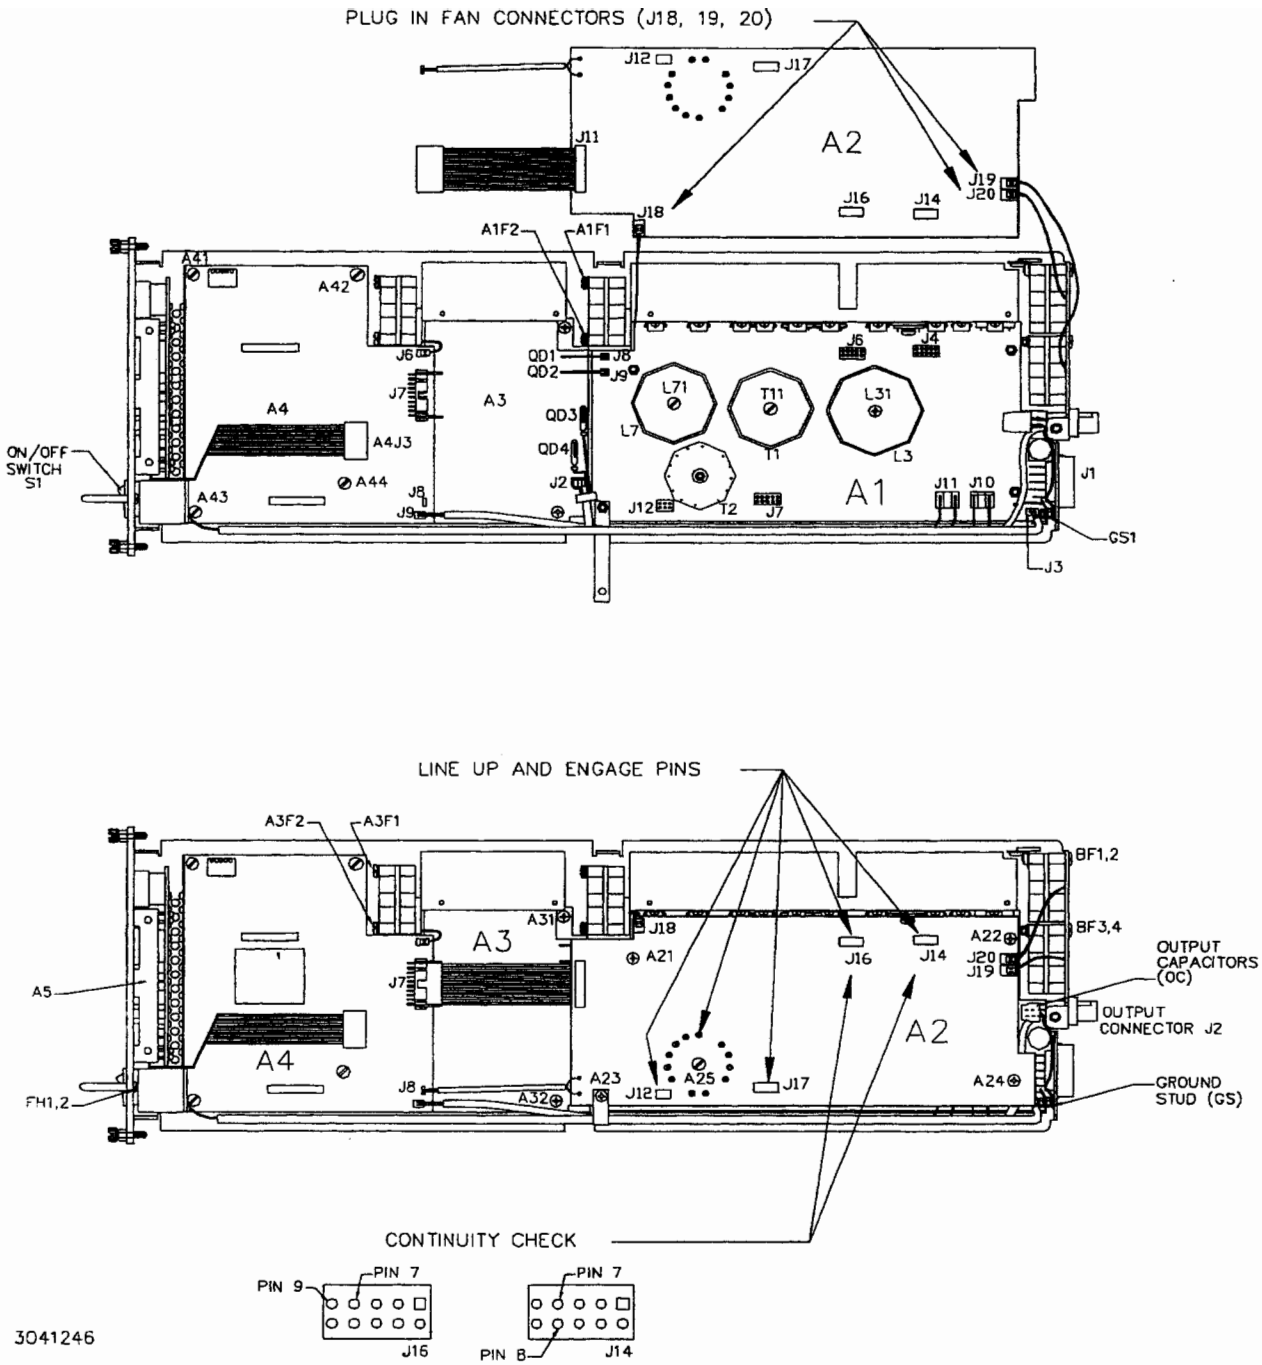

FIGURE 5-2. GUIDE TO MST REASSEMBLY
5.3.2 A2 BOARD REMOVAL (REFER TO FIGURE 5-2)
6. Remove the four screws (A41 to A44, Figure 5-2) on the A4 board as well as the two Phillips head screws (A31, A32) on the A3 board.
3. Remove heatsink from A3 by loosening three screws securing three clamps attaching the heatsink to A3 components, then remove the fan from the A3 board heat sink by removing the two slotted screws (A3F1, A3F2, Figure 5-2).
1. Remove the two slotted head screws securing L7, insulator L71, T1, and insulator T11 on the A1 board, and also the Phillips head screw securing L3 and insulator L31 on the A1 board (see Figure 5-2).
After the MST Power Module is assembled, perform the following continuity check to verify that the connectors between the boards are making good electrical contact. Refer to Figure 5-2 and follow the steps indicated. Verify continuity across pins 7 and 9 of connector J16; and across pins 7 and 8 of connector J14 on board A2. If this is not the case, remove the A2 board and reseal all the connector headers on the A1 board. Reassemble the unit again and repeat the continuity check.